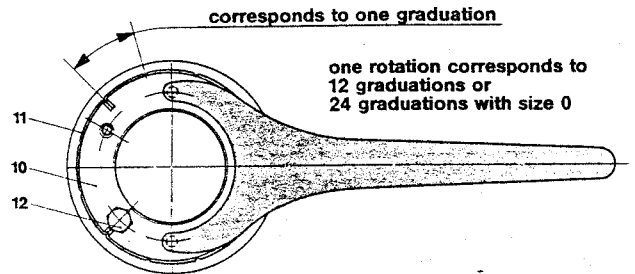

Fig. 8
counterclockwise rotation (view of adjusting nut shown in figure 8).
- grease thread and contact faces of adjusting nut (10), lock washer (11) and hub (1, 2).
- screw on adjusting nut (10) manually until it contacts the disc springs (9).
- continue turning until the 4 notches in the adjusting nut (10) and the notches in the lock washer (11) are in the same position, figure 8.
- turn the adjusting nut (10) with a face wrench by the number of graduations, which corresponds to the required torque, figure 8 (number of graduations is shown in the adjusting diagram).
- screw in the setscrew (12) (notches in adjusting nut (10) and lock washer (11) have to be in the same position).
For that purpose you remove the setscrew (12) and adjust the graduations with a face wrench, figure 8. Afterwards the setscrew (12) is screwed in again. Here it is essential to ensure that the 4 notches in the adjusting nut (10) and the notches in the lock washer (11) are in the same position.